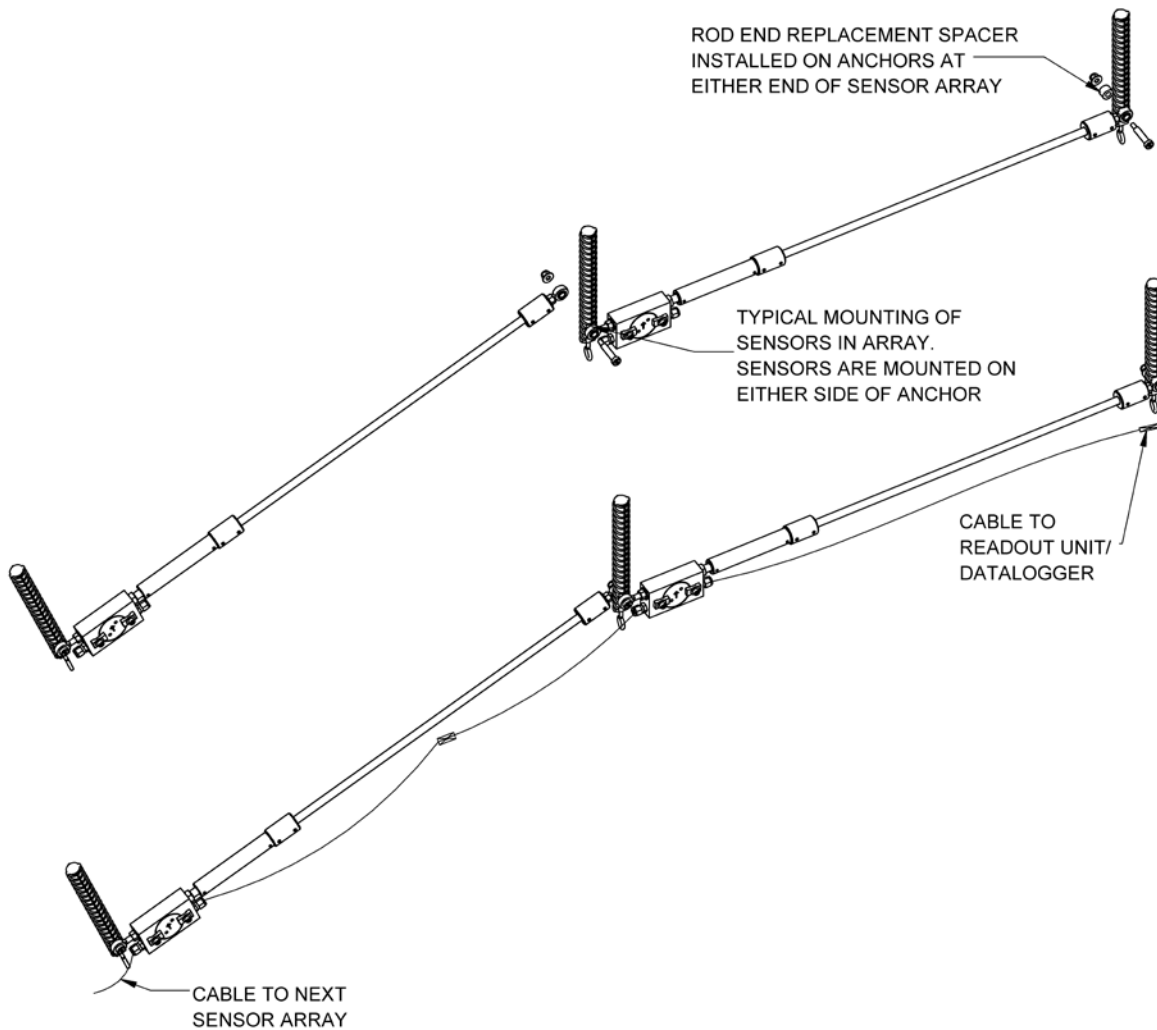

FIGURE 2-7 SENSOR ARRANGEMENT IN SENSOR ARRAY
- 14 Run the sensor cables to the side of the tunnel where the data logger will be installed. Use the sensors to hold the cables in place and out of the way by incrementally taping the cables to the sensor over the length of the sensor array. Refer to Figure 2-7.